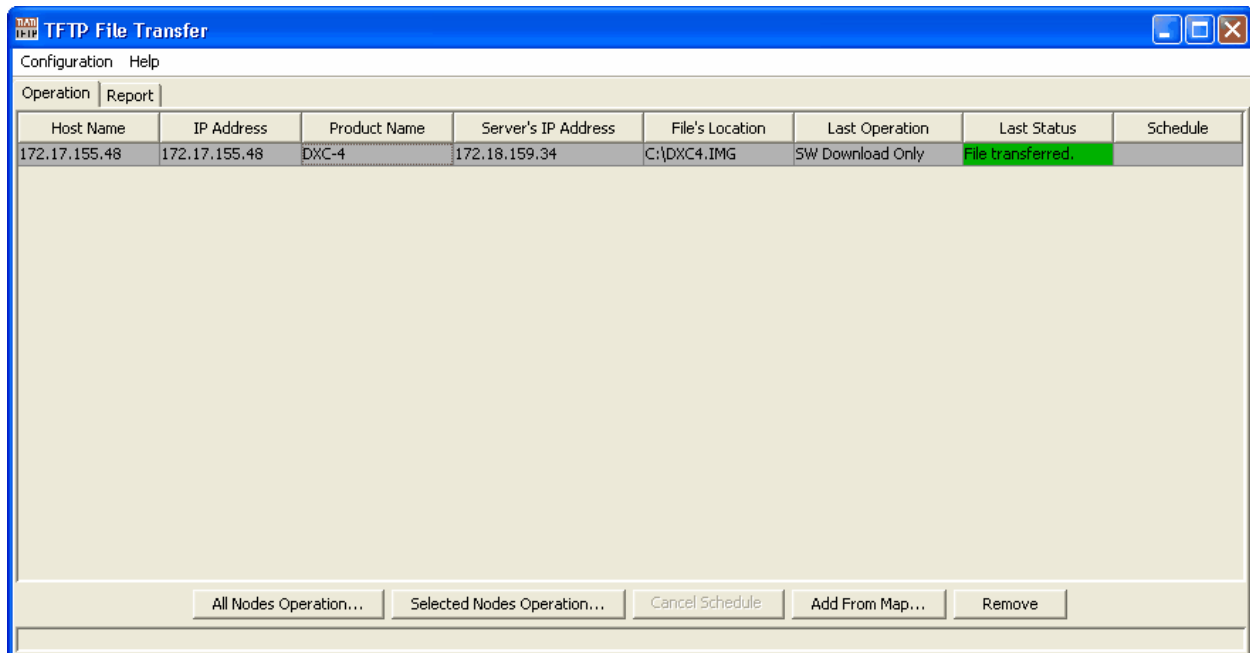

Figure 4-16. TFTP Dialog Box – Operation Tab, Successful Transfer
5. After allowing time for the transfer to finish, or after the scheduled time if scheduled operation was performed, check the status reported in the Last Status column (see Figure 4-16) to determine whether the download was successful. Additional information is available via the Report tab (see Viewing TFTP File Transfer Reports).